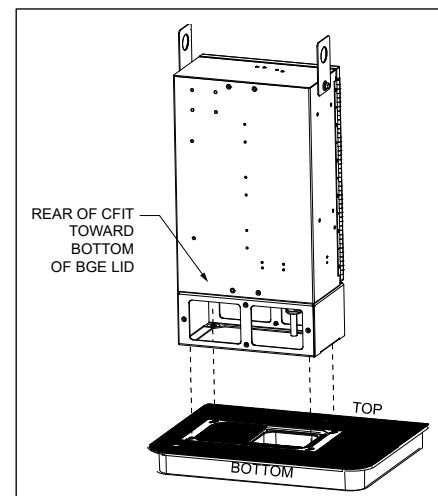

Figure 5 Mount CFITH on BGE Lid
3. Lower the CFITH onto the gasket, following the instructions included with the CFITH. The CFITH door should face the top of the BGE lid. Make sure that the holes on the bottom of the CFITH plinth are aligned with the toggle anchor caps (Figure 5). Dress the cable/conduit so that it aligns with the CFITH and the BGE cutout.